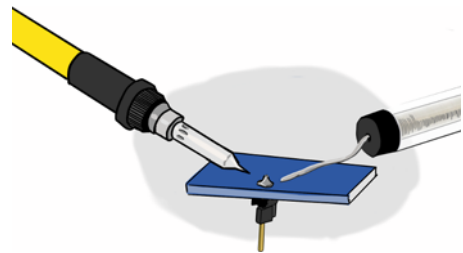

Figure 7.17 A well-soldered connection resembles a little volcano of solder.
- 6 The solder will melt and flow around the joint. Once you have a nice-looking mountain-shaped mound of solder (figure 7.17), remove the soldering iron and voila! You’ll find with time that the solder kind of naturally “wants” to flow into that volcano shape.